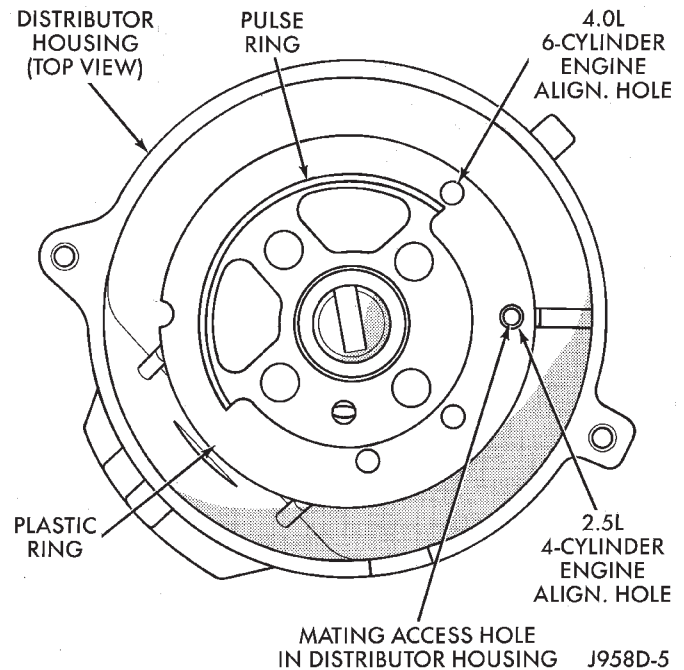

Fig. 40 Pin Alignment Holes—4.0L Engine
(4) If original distributor is to be reinstalled, such as during engine overhaul, the plastic pin will not be available. A 3/16 inch drift pin punch tool may be substituted for the plastic pin.
(5) Remove camshaft position sensor from distributor housing. Lift straight up.
(6) Four different alignment holes are provided on the plastic ring (Fig. 40). **Note that 2.5L and 4.0L engines have different alignment holes (Fig. 40).**
(7) Rotate distributor shaft and install pin punch tool through proper alignment hole in plastic ring (Fig. 40) and into mating access hole in distributor housing. This will prevent distributor shaft and rotor from rotating.
(8) Clean distributor mounting hole area of engine block.